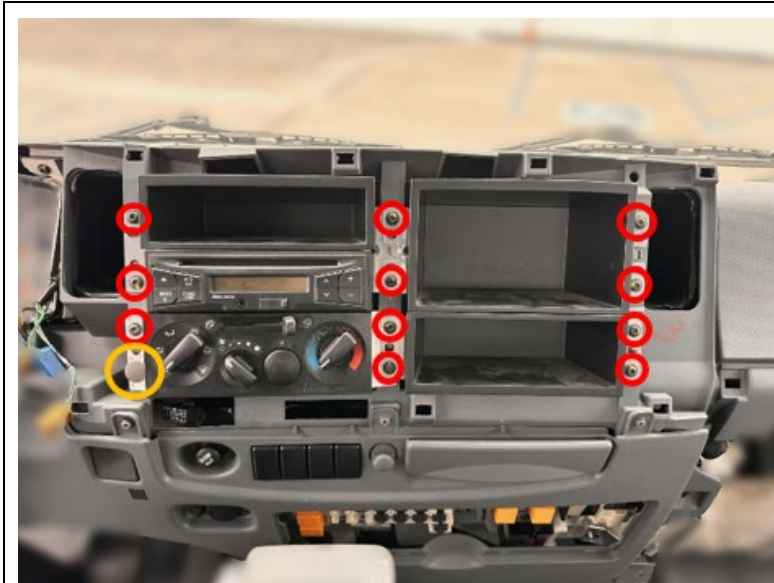

Figure 55
55. Remove the eleven (11) T25 screws securing the cluster compartments, radio and A/C control panel and the one (1) clip for the A/C control panel. (See Figure 55.) Remove the cluster compartments and radio. Do not remove the A/C Control panel. If the vehicle is equipped with an aftermarket radio, follow the manufacturer's instructions for removal.